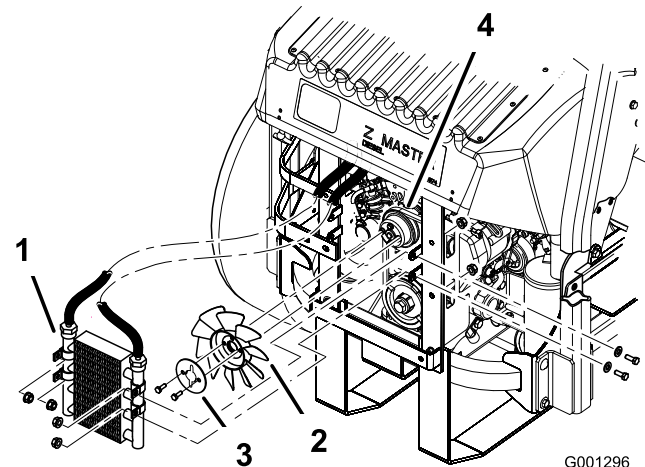

Figure 65
5. Remove the 4 bolts holding the oil cooler and position the oil cooler to the side (Figure 65).
6. Remove the 2 bolts holding the fan and fan plate to the machine (Figure 65).
10. Install the fan and fan plate to the machine with the 2 bolts previously removed (Figure 65).
11. Install the oil cooler with the 4 bolts previously removed (Figure 65).